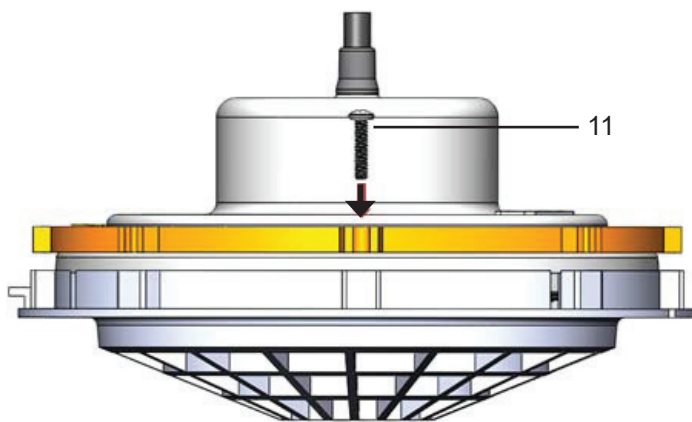

Figure 5.
5. Insert one Truss head screw (11) into each of the 'U' shaped grooves on the clamp ring as shown in Figure 5.